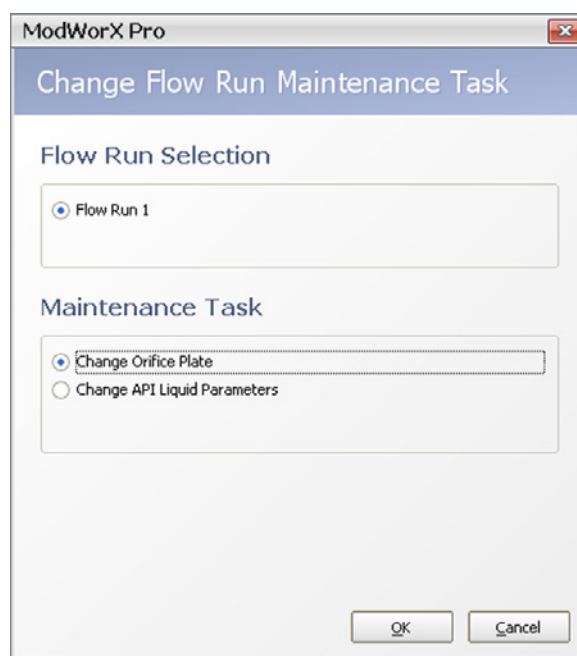

Figure C.2
If the flow run is configured for liquid measurement, the selections will appear as shown in Figure C.2, page C-2. Enter the appropriate fluid properties calculation method (generic or API-2540). If API-2540 is selected, specify the type of fluid from the dropdown list provided.
1. If Change API Liquid Parameters is not displayed in the Maintenance Task field at the top of the Maintain Flow Run screen, click on **Change Task**. The Change Flow Run Maintenance Task dialog box will appear (Figure C.2).